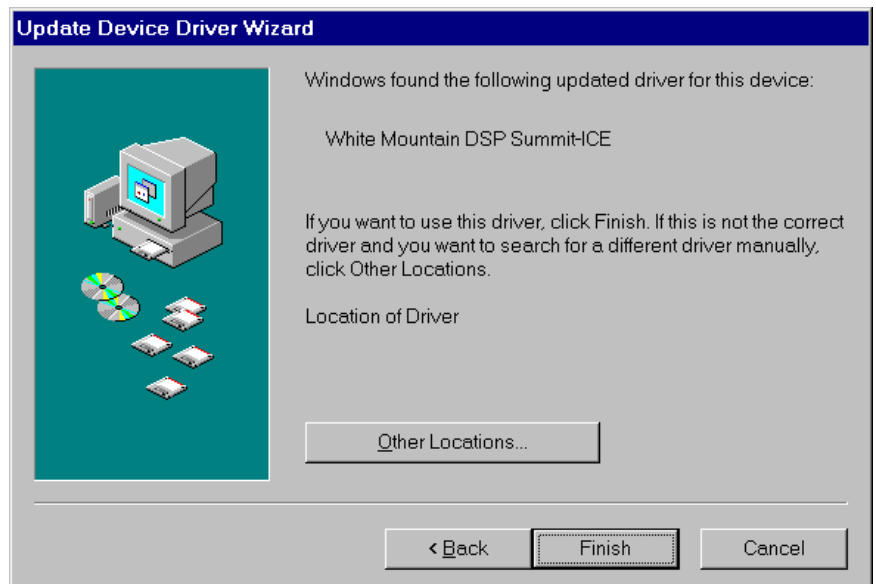

Figure 2. Driver Location Dialog for Windows 95
2. Insert your vendor's emulation tools installation CD into the CD ROM drive. Windows 95 will then automatically detect and install the Summit-ICE driver from the disk as shown in figure 2.